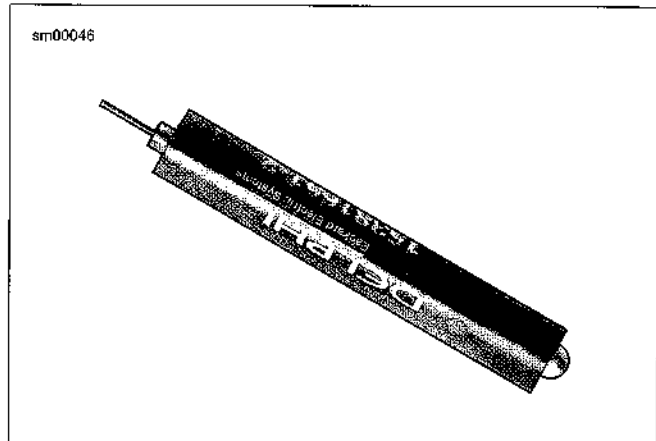

Figure A-24. Terminal Remover (HD-45928)
4. See Figure A-24. Obtain the TERMINAL REMOVER (Part No. HD-45928).